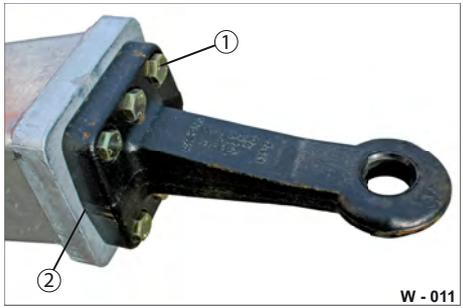

Fig. 14 Towing eye connection
- ▶ Retighten the bolts (Fig. 14/1) in crosswise sequence.